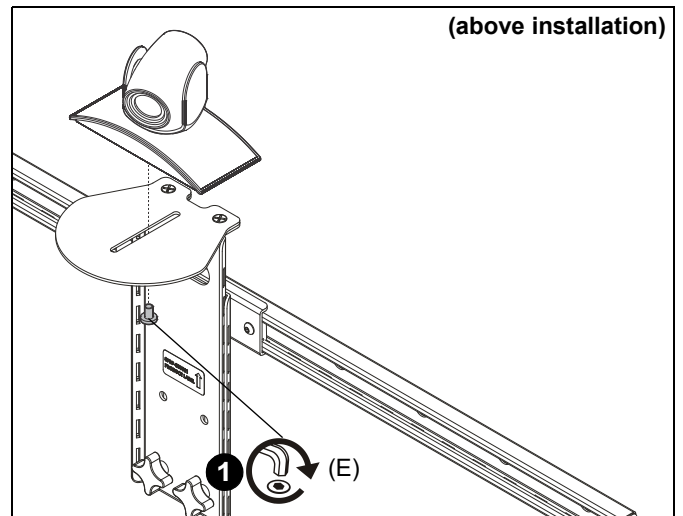

Figure 8
1. Use 1/4-20 x 3/8" button head cap screw (E) or screw provided with camera to secure camera to shelf. (See Figure 8)